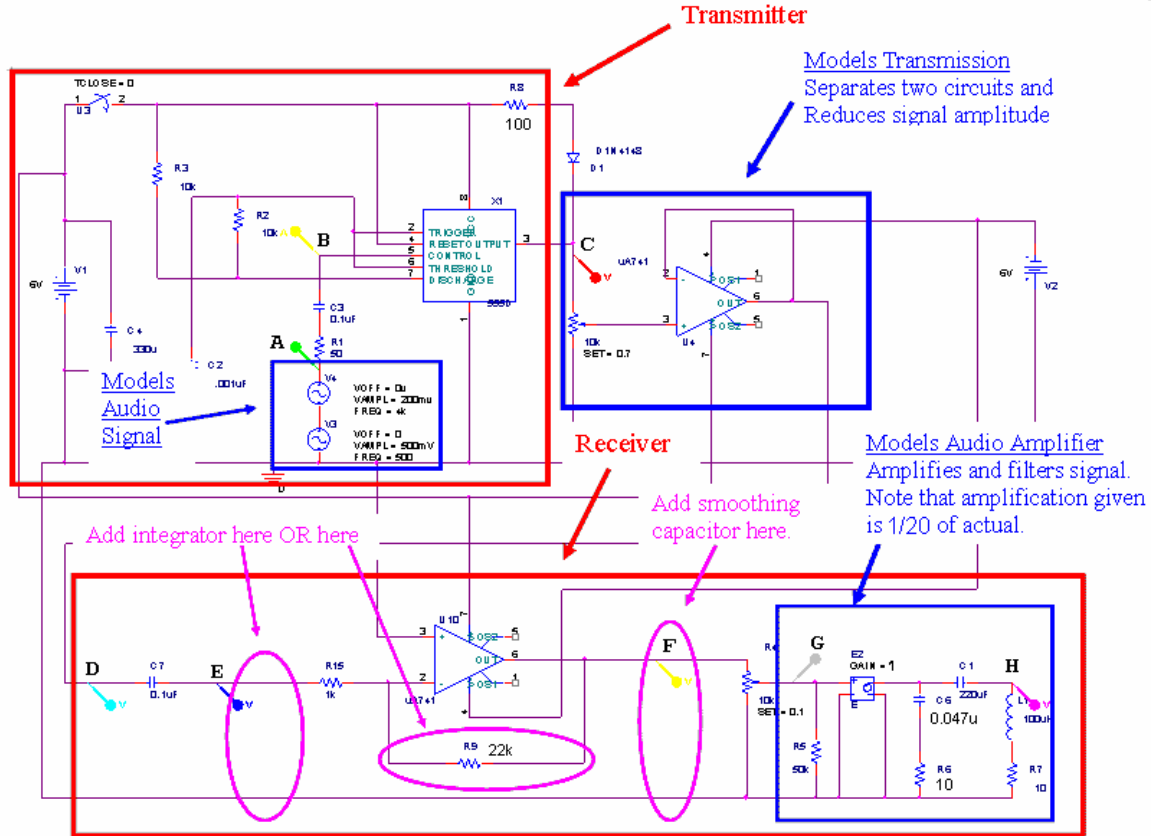

Figure 6
*The model:* Figure 6 shows the different pieces of the model. An audio source is approximated using two sine wave sources. The transmitter circuit is separated from the receiver circuit with a buffer. (In the real circuit that you build, this separation will be the air through which the light pulses are transmitted. In the simulation, we don't have light or air, but we can at least isolate the two circuits electronically with a buffer.) There is also a pot that creates the difference in amplitude between the pulses generated by the transmitter and the pulses picked up by the phototransistor. The audio amplifier in the receiver is modeled with a different amplifier (E) than the 386 used in the real circuit. (PSpice does not have a 386). In order to keep the amplitude of the output at the same order of magnitude as the input, the gain on this amplifier (1) is 1/20 of the gain on the 386 without the optional capacitor. The picture also shows the locations you will use to add the circuit elements you need for your final design.